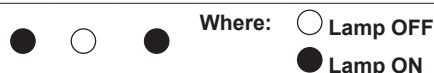

Fig. 8.4
- Press the reset button 7 repeatedly (4 times) until the lamps 10 give the indication as in Fig. 8.4 (gas type mode).